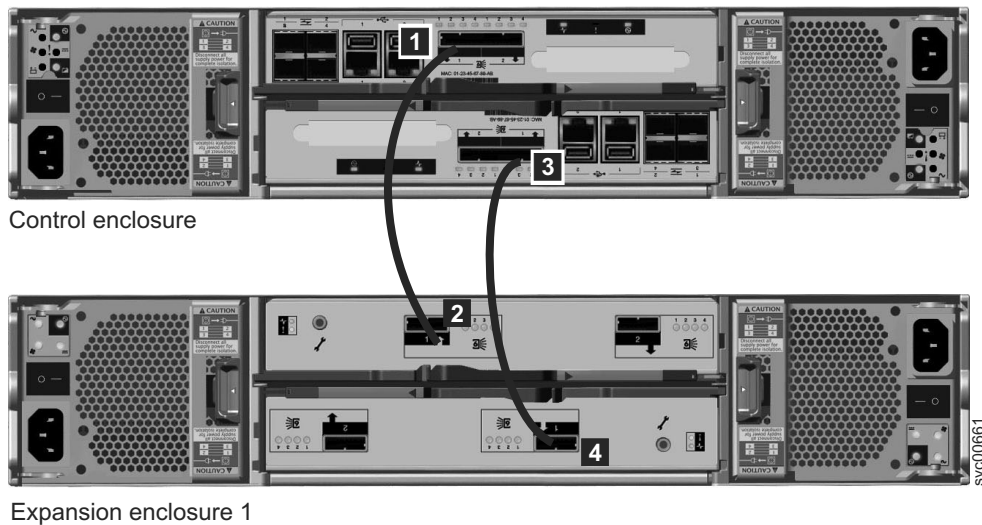

Figure 35. Attaching an expansion enclosure to the control enclosure
- Attach the SAS cables from the control enclosure to the first expansion enclosure as shown in Figure 35. Remove the protective end covers, if necessary. The first expansion enclosure is below the control enclosure.